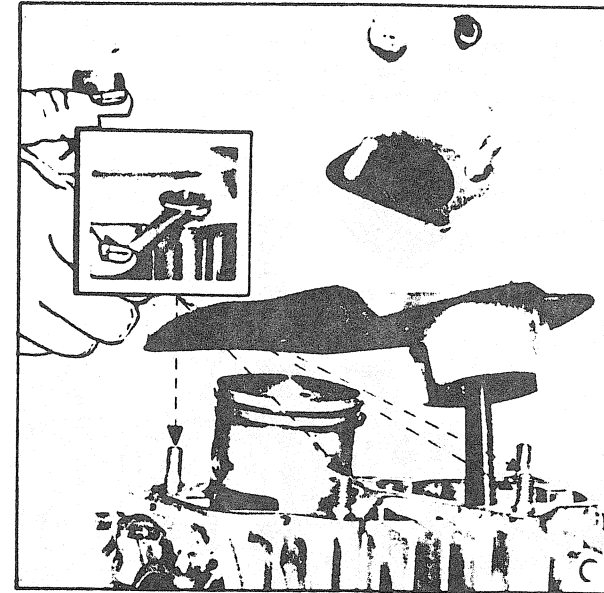

FIGURE 17
- Pull up the cylinder block assembly (fig. 17).